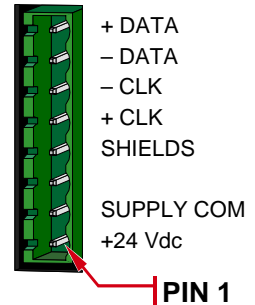

Figure 2.1 Transducer Input Connector
- 4.4) Install the transducer cable. Figure 6.2, *7361 Transducer Input Connector*, on page 33 shows the connections for the MTS Temposonics III and Balluff BTL-5 transducers. If you're not using one of these transducers, figure 2.1 shows the pinout of the transducer connector. Refer to your transducer's installation manual for suggested cable and wire colors. Note that the mate to the transducer input connector (AMCI part # MS-8), is included with the 7361.